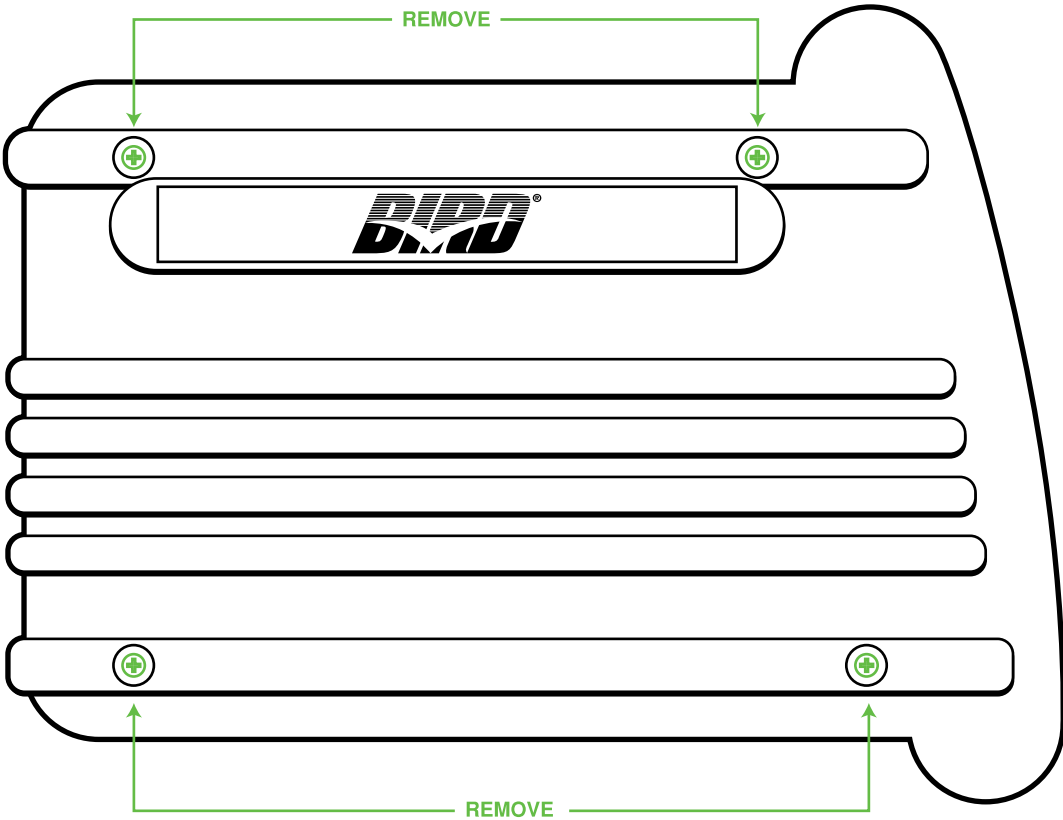

Figure 5-1. Ventilator Left and Right Side Cover Removal
1. Referring to Figure 5-1, use a Phillips screwdriver and remove the four (4) screws securing the left side cover.
1. Using Figure 5-1 as a reference, remove the (4) Phillips screws securing the right side cover to the ventilator chassis.